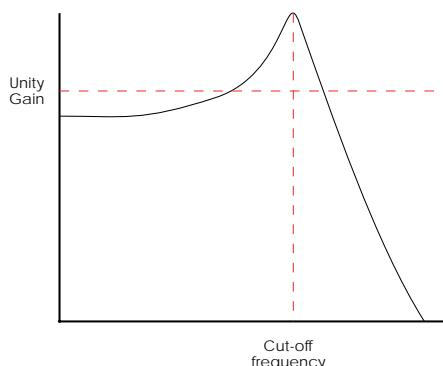
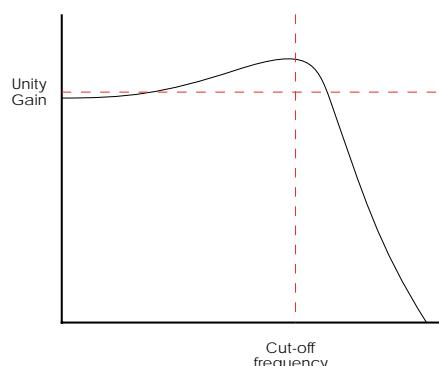

Figure 13: A typical resonant low-pass filter response.
Figure 14:
Figure 13 (on page 140) shows an idealised response for a resonant low-pass filter. As you can see, the filter still attenuates the frequencies far above the cutoff frequency, but a band around the cutoff is boosted. Furthermore, the low frequencies are slightly attenuated. (For some reason, this is rarely shown in diagrams of this sort.) The width of the resonant peak is described by a parameter called its 'Q'. If Q is low, the peak is broad, but as Q increases, the peak in the filter response becomes more and more pronounced and creates dramatic tonal changes. See Figures 14 and 15 on page 140.
► later instalments of Synth Secrets. But, in the spirit of all things filter-y, let's briefly touch upon some of the possibilities suggested by Figures 14 to 16:
Strangely, if the contours were trapezoids, the two solos would sound identical, provided that the Odyssey's contours did not reset to zero at the start of each note (see Figures 12 and 13, on page 134). Hang on... what's all this about resetting to zero? Check out Figure 14 (also on page 134). This shows the contour of a series of 'reset to zero' trapezoid transients. Some synths reset in this way, and it can lead to a very disjointed sound indeed. Because of their slower Attacks and Releases, this is particularly noticeable on some string ensembles where the single envelope generator resets every time it is initialised. Some early polysynths do this, too. It's horrible, and sounds like the instrument is swallowing its tongue. Glump!